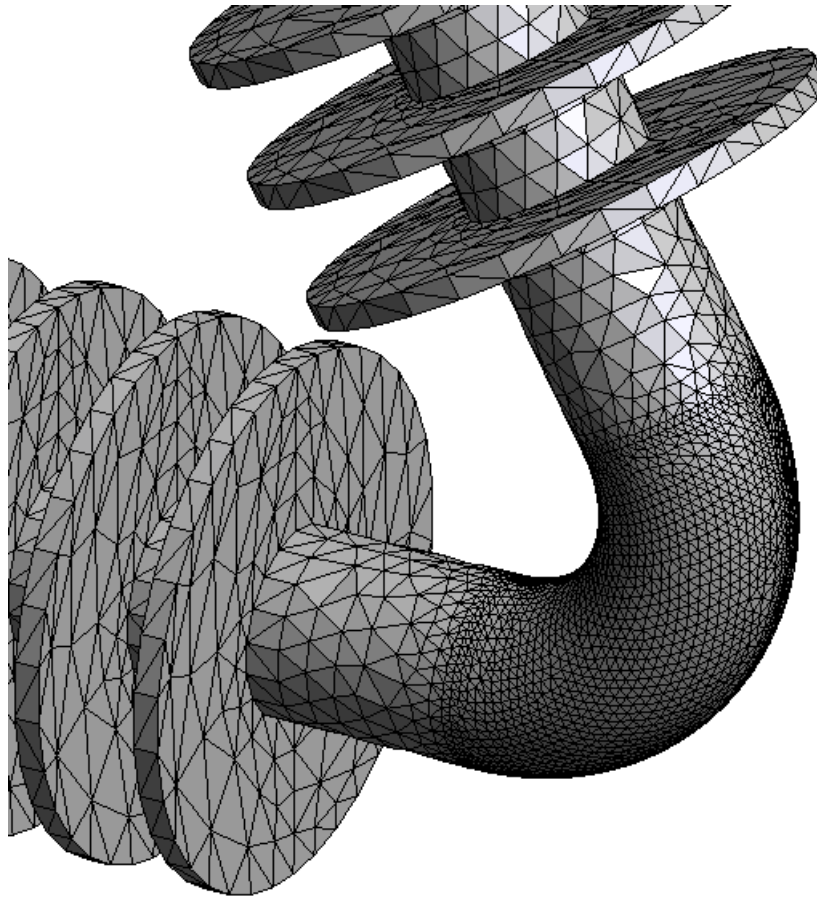

Figure 32. The mesh with a concentration of elements on the surfaces of the elbow
- 7 . Choose **Mesh->View Mesh Boundary** to see only the contour of the meshed volumes but not the interiors (Figure 32).